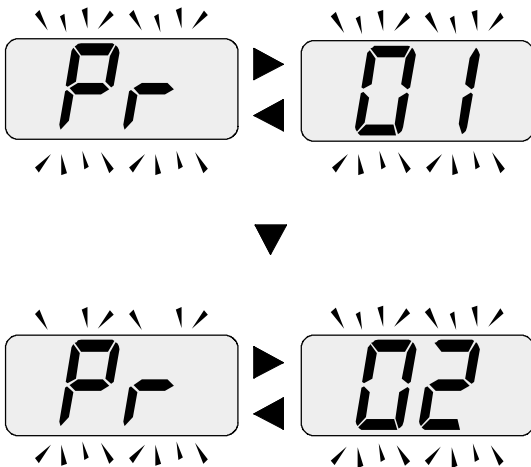

Fig. 6.7
- 3 The display shows Fig. 6.7